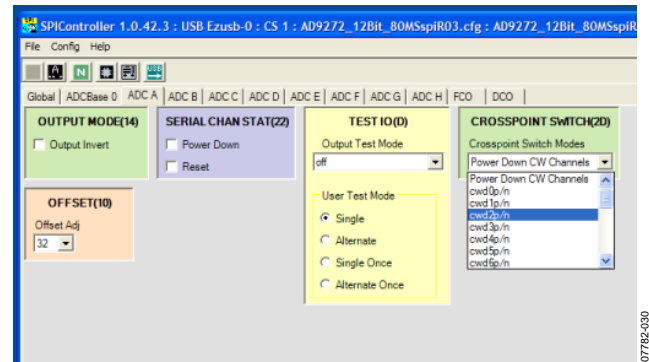

Figure 19. SPI Controller, CROSSPOINT SWITCH(2D) Box
7. In the **ADC x** tab of the SPI Controller, where x is the channel to which an analog input is applied, find the **CROSSPOINT SWITCH(2D)** box. From the **Crosspoint Switch Modes** drop-down box, select the **cw2p/n** option (see Figure 19).